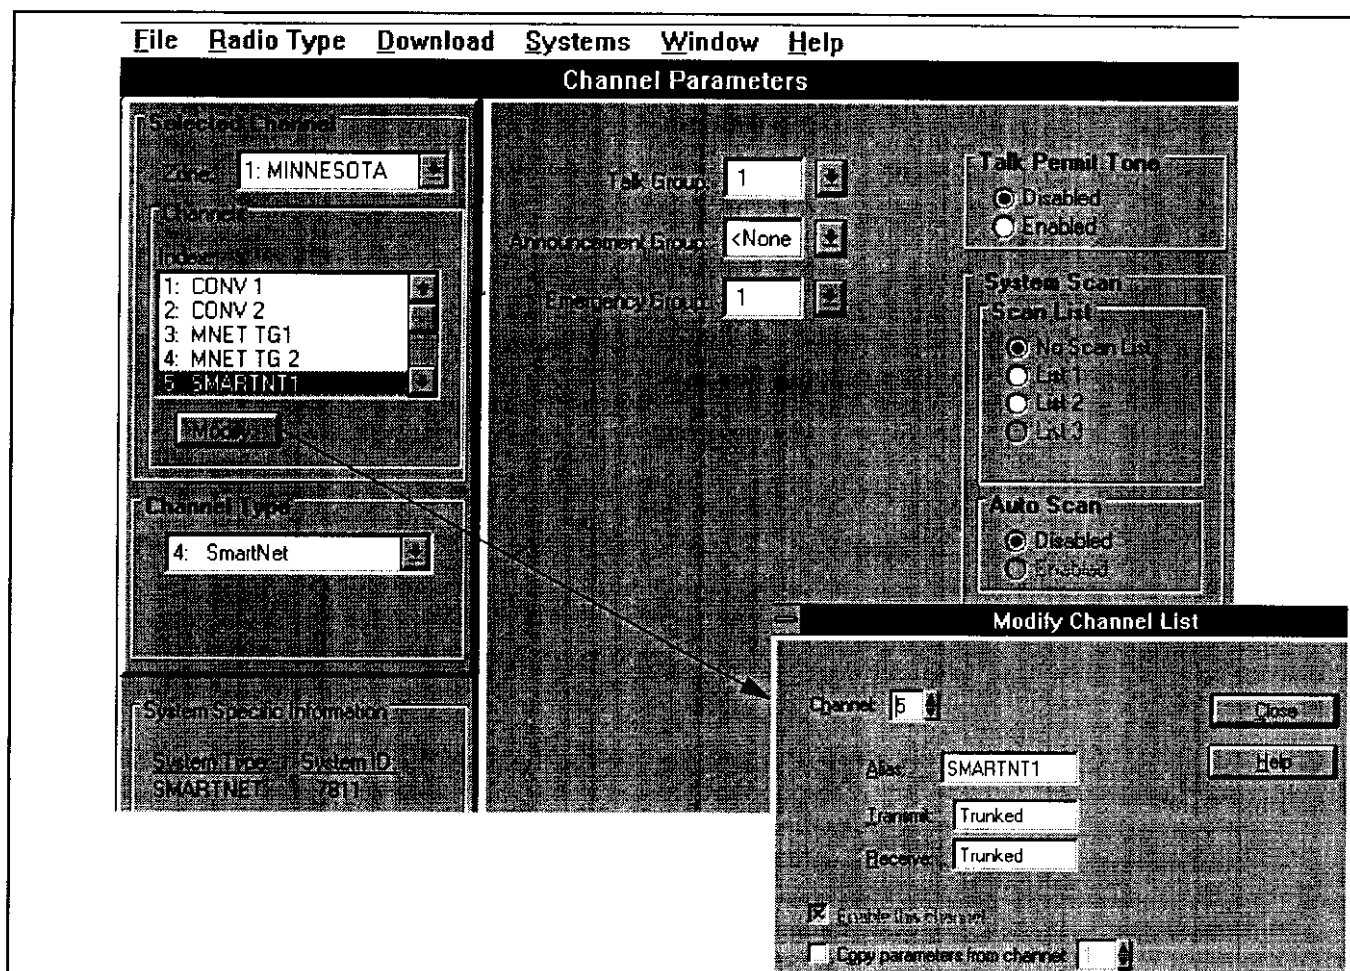

Figure 4-4 SmartNet/SmartZone Channel Screen
The SmartNet/SmartZone Channel screen shown in Figure 4-4 is displayed when the SmartNet or SmartZone channel type is selected. The channel screen programs unique channel parameters and also assigns channels to the selectable zones displayed by the transceiver.
4. Click the Modify button to display the dialog box shown in the lower part of Figure 4-4. This box programs the alias (tag) that is displayed when it is selected.
The following parameters are programmed in the SmartNet/SmartZone channel screen shown in Figure 4-4.
Modify - Displays the screen shown in the lower part of Figure 4-4. The parameters programmed in this screen are as follows: